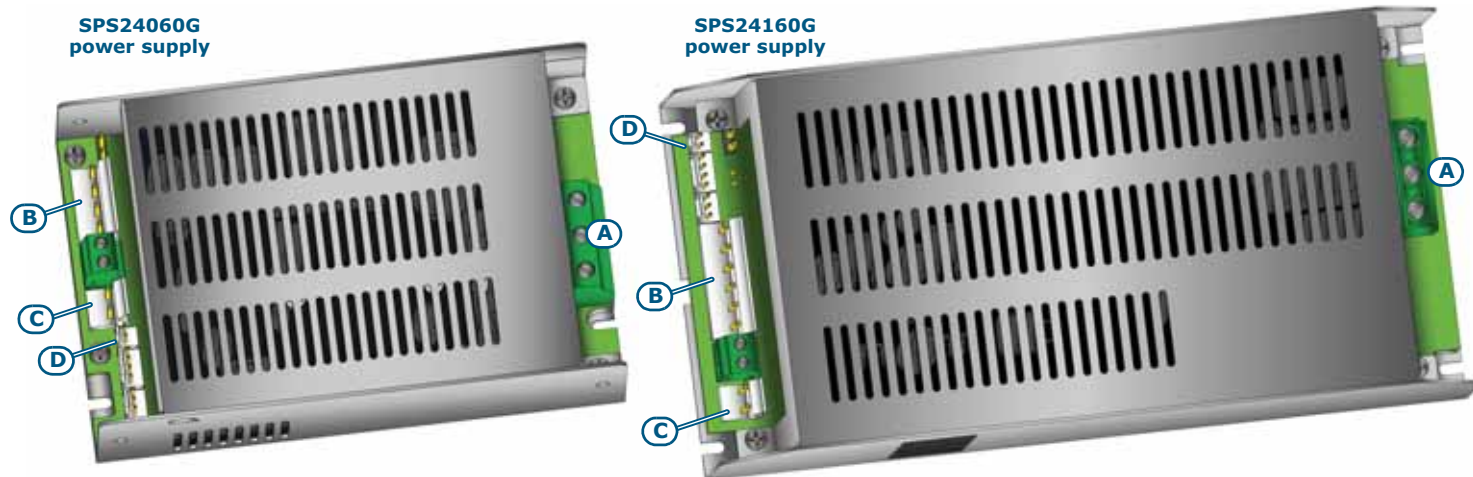
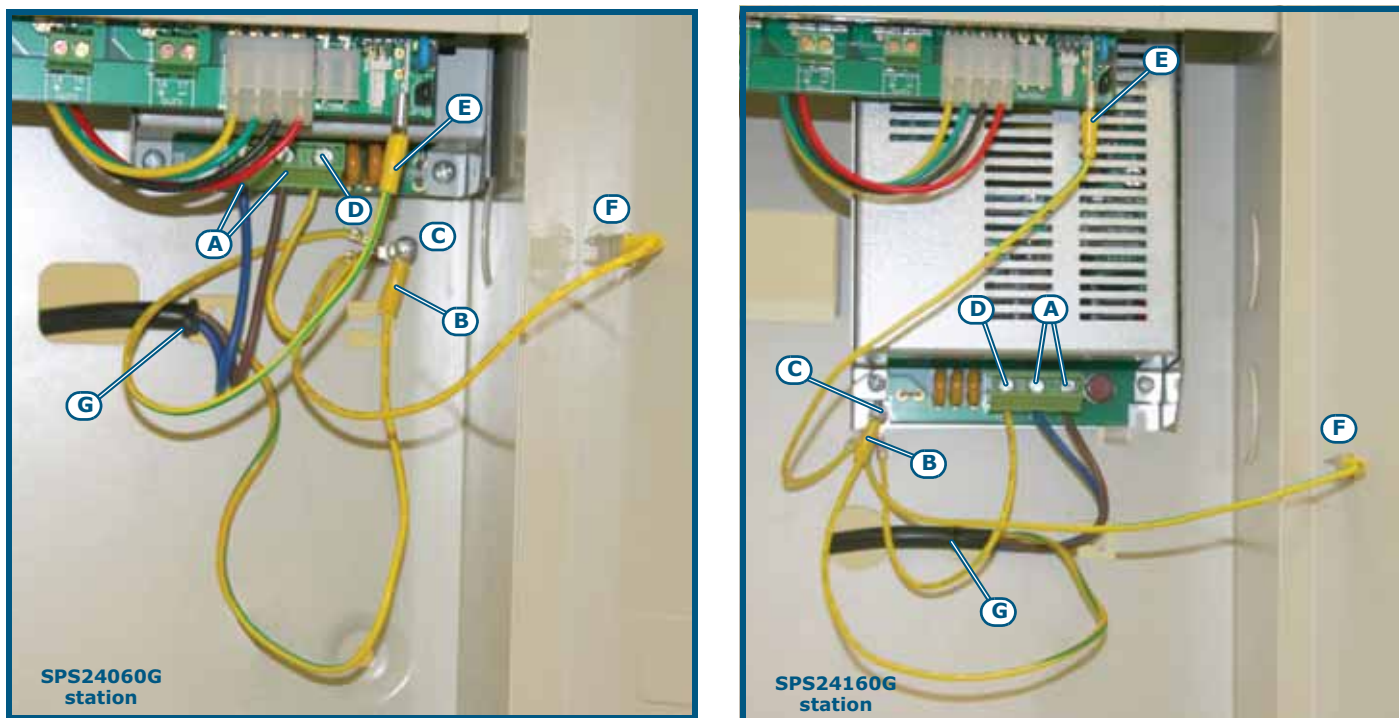

Figure 9 - Switching power supply
Figure 13 - Earthing system
1. Connect the mains power supply to the terminals on the power-supply module (*Figure 9 - Switching power supply, [A]* and *Figure 13 - Earthing system, [A]*).
6. Insert the two 12V batteries and connect them to the power supply module (Figure 9 - Switching power supply, [C]).
3. Connect the terminal [C] of the battery wire to the proper connector of the power-supply unit (*Figure 9 - Switching power supply, [C]*).